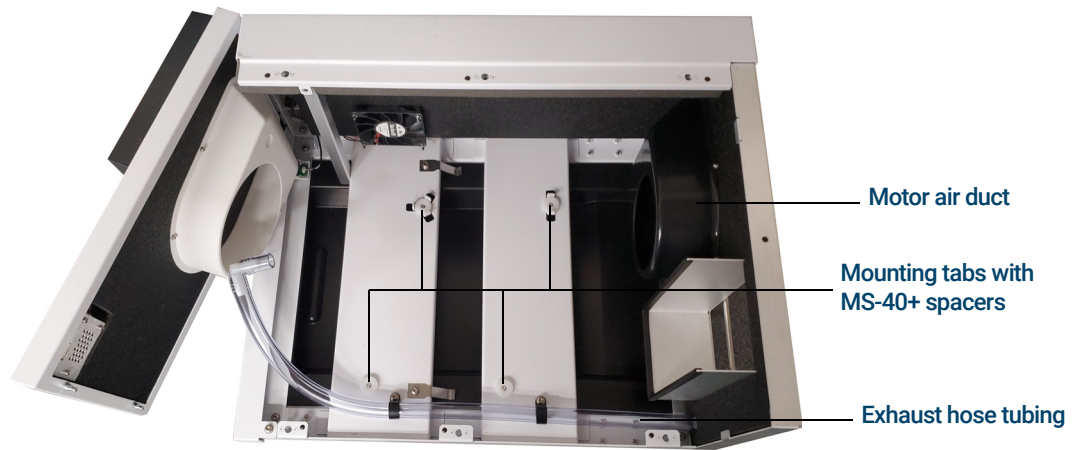

Figure 7. Mounting cup and mounting tabs on the Quiet Cover MS
- 3 Install the rough pump into the Quiet Cover MS. Orient the rough pump support foot into the front mounting cup inside the Quiet Cover MS and between the Quiet Cover MS mounting tabs so that the pump oil level window sight glass faces the front access door (Figure 7).